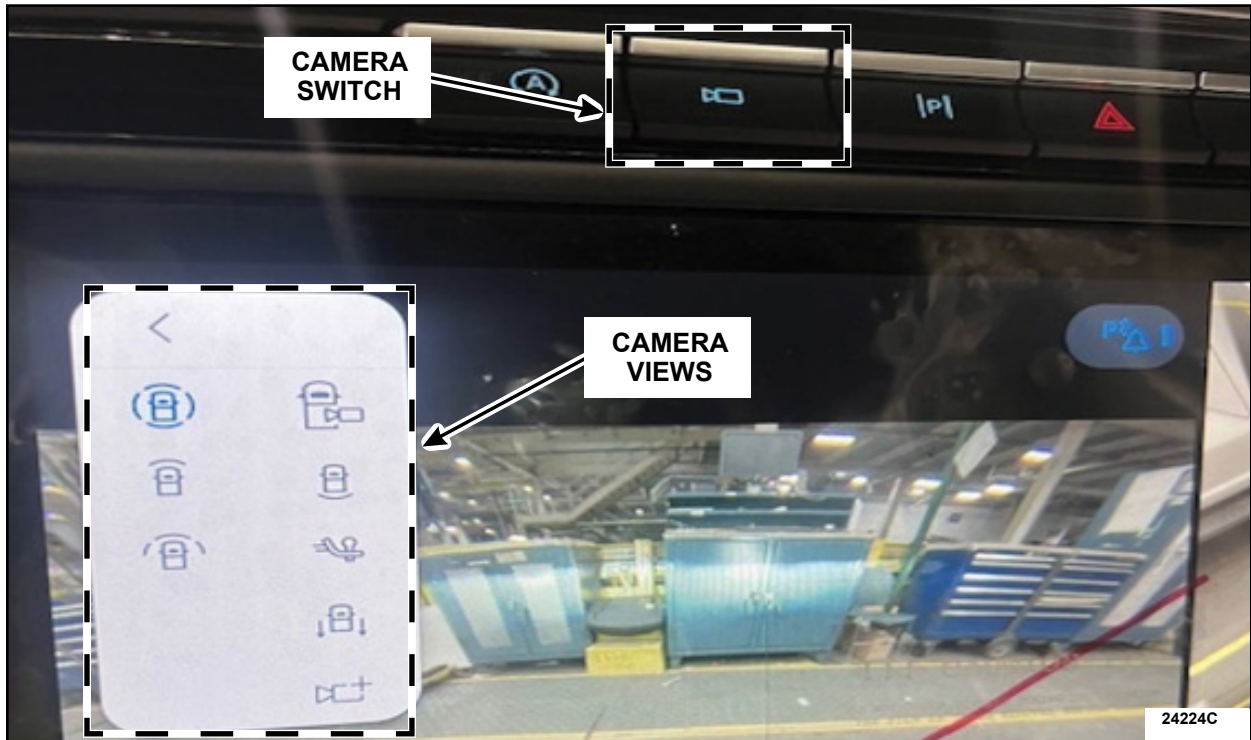

FIGURE 3
6. Verify proper operation of the 360° and center high mount stop lamp (CHMSL) camera display on the 12 inch screen by selecting each camera view. See Figure 3.